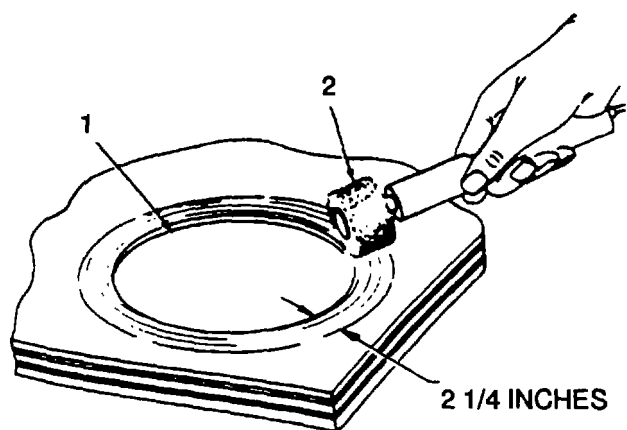

Figure 2-27. Buffing Surface 2 1/4 Inches Larger In all Directions
(c) Buff surface around damage 2 1/4 inches larger in all directions than damaged area (1, figure 2-27). Use portable drill (2), abrasive arbor, and/or scotch-brite. Buff only to remove gloss without excessively reducing outer coating thickness.
(c) Buff surface around damage (1, figure 2-27) 2 1/4 inches larger in all directions than damaged area. Use portable drill, abrasive arbor (2), and/or scotch-brite. Buff only to remove gloss without excessively reducing interior ply thickness.